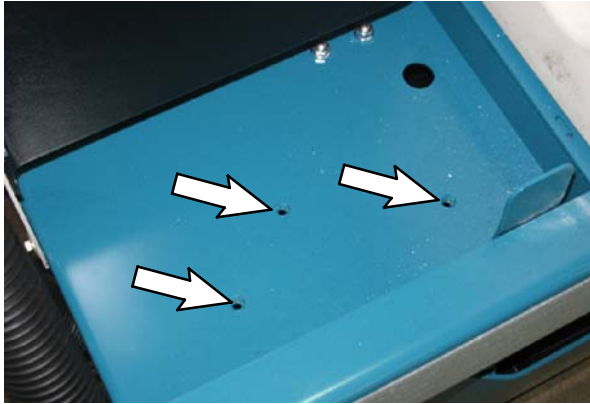

FIG. 9
19. Thread three M6 X 1.25 SEMS screws into the frame of the machine. Refer to Fig. 9.